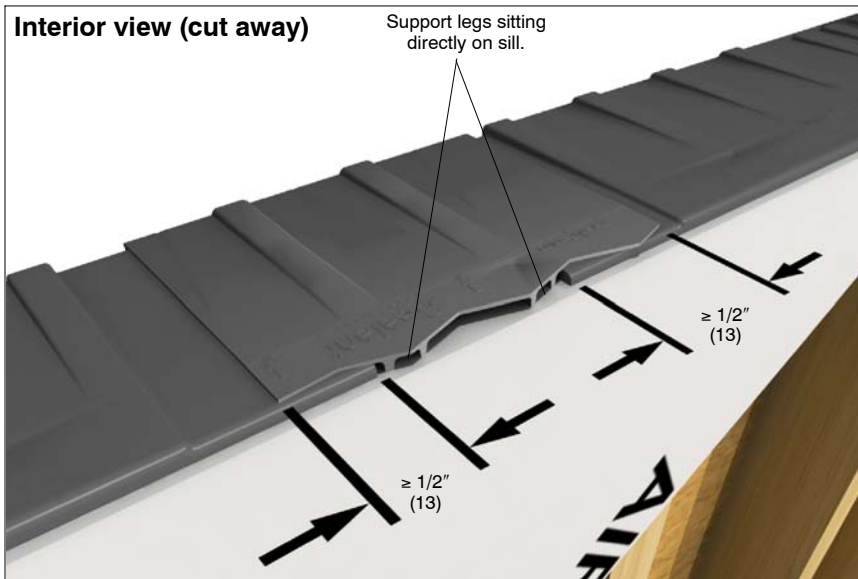

Figure 20: Support legs sitting directly on sill
1. The support legs (positioned beneath each support rib) must sit directly on the rough opening sill. For a proper fit, these ribs cannot sit atop another SillGuard component. See figure 20.